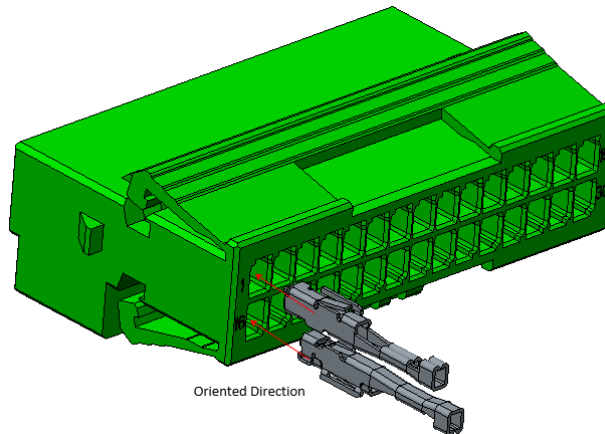

Figure 5
3. Align a terminated contact with the selected contact cavity of the inner housing so that the contact latch features are oriented in same direction as shown in Figure 5. Insert the contact into the contact cavity until it bottoms. There should be an audible or tactile "click" when the contact is fully seated.